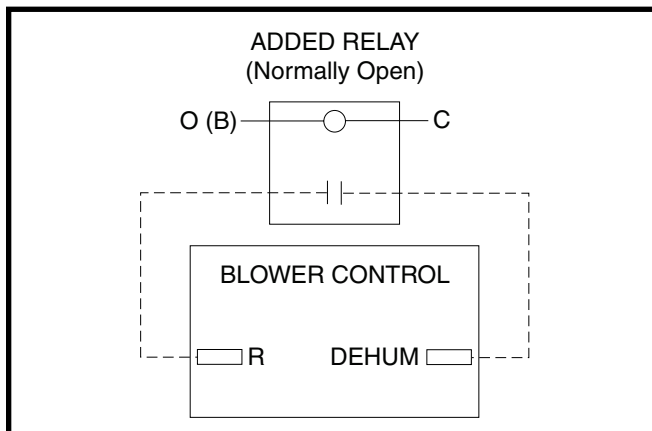

Figure 19. DHUM to Relay Wiring Configuration
- If a humidistat is not available, it is an acceptable option to connect the R & DEHUM via a field supplied normally open relay. See Figure 19, (page 21). The R & DEHUM terminals should be connected across the normally open relay terminals. The O (B) & C terminals should then be connected across the relay coil. This option causes the blower to run at a reduced CFM for 10 minutes after a call for cooling.